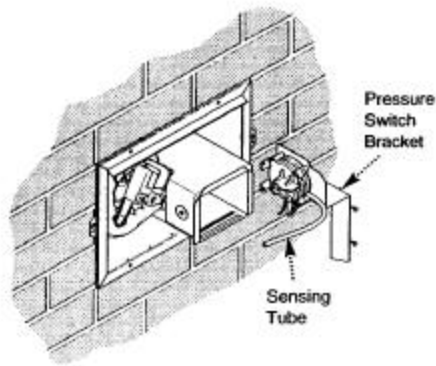
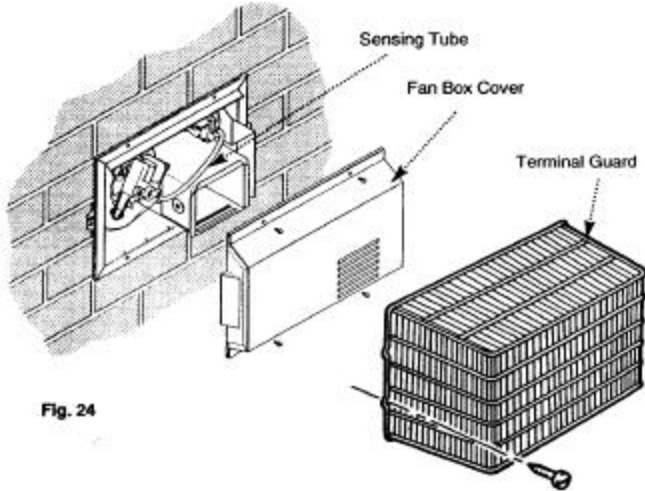

Fig. 23
Fig. 24
14. Locate the fan box and flue assembly in the flue box collar and secure with the screws previously removed and refit the pressure switch bracket (Fig. 23). Reconnect the sensing tube (Fig. 24).
15. Fit the fan box cover to the fan box assembly. **A TERMINAL GUARD IS RECOMMENDED** Baxi Heating Part N° 245770. Position the guard over the fan box. Ensure the guard is equally spaced about the fan box. Mark the fixing positions, drill and plug the holes and secure the guard to wall (Fig. 24).